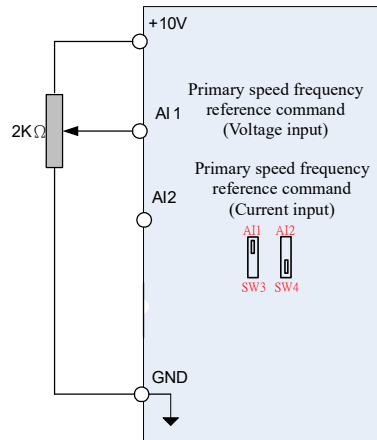

Figure 4.3.6 Analog input for the primary speed frequency reference command
(2) 00-05/00-06=1:
- ① Input 0V to the AI1 terminal
- ② Set 04-00=1: (Choose 4~20mA input as the multi-function analog input terminal AI2 signal)
- ③ Set the flip switch SW4 to the I (current) position.
- ④ Set 04-05=10 (add the AI2 signal to AI1).
- Refer to Figure 4.3.6 to understand the details for selecting analog terminal setting as the primary speed frequency source.